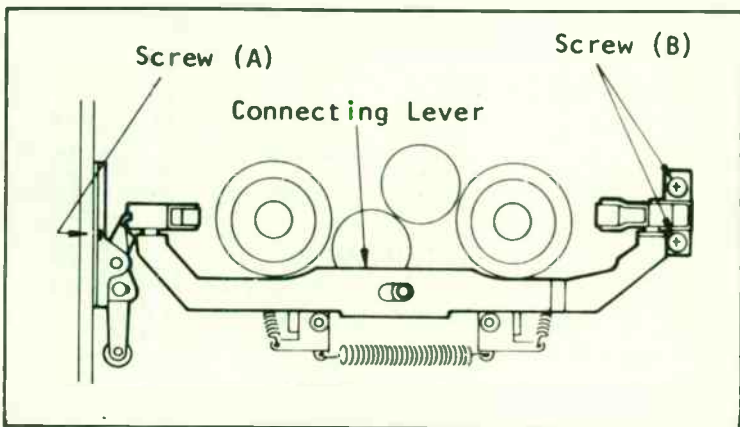

Fig. 10-21. Tension and threading post adjustment (courtesy of Magnavox).
Measuring Procedure (see Fig. 10-21).
1—Remove the cassette compartment and refer to Fig. 10-21. Now remove one screw (A), the eject link unit, two screws (B) and lift the connecting lever.